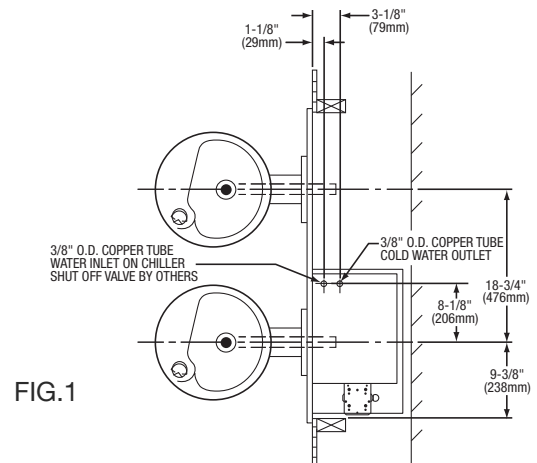

FIG. 1
**NOTE:** Building construction must allow for adequate air flow on both sides and top of remote chiller unit. Minimum of 4" (102mm) is required. (See Figures 1 & 2)
**3. Install plumbing and electrical rough-ins.** See Figure 1 for location of the supply water inlet to chiller and for the location of the waste water outlet. A junction box for a (3) wire, 10 amp branch circuit is provided on the inside of the chiller. (Standard 120 Volts, 60 Hz and single phase) See Figure 2 for the electrical inlet location.